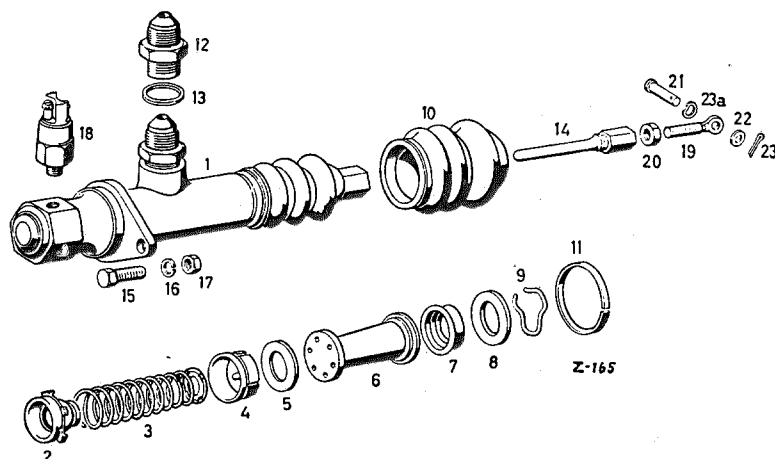

Fig. 42 — 4/1
8. Check the compensating port (1) and the connecting port (2) for free passage (see Fig. 42 — 3/1). Do not bore out the com-
13. Install a new check valve on the bottom coil of the pressure spring (see Fig. 42 — 3/1).
15. Install a new primary cup in the cylinder, making sure that the rubber cone of the cup is fully seated in the bore of the spring retainer. Then install the piston cup washer (5) (see Fig. 42 — 4/1).
17. Install the piston stop washer (8) and the piston stop ring (9).
18. Slide the push rod (14) into the piston, slide on the rubber boot (10), and install the strap (11) (see Fig. 42 — 4/1).